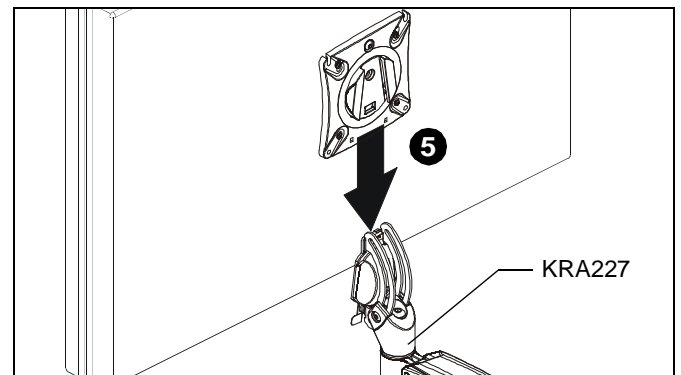

Figure 7
4. Position display with faceplate attached above KRA227. (See Figure 7)
5. Slide faceplate onto KRA227 head until quick release tab clicks into place. (See Figure 7)